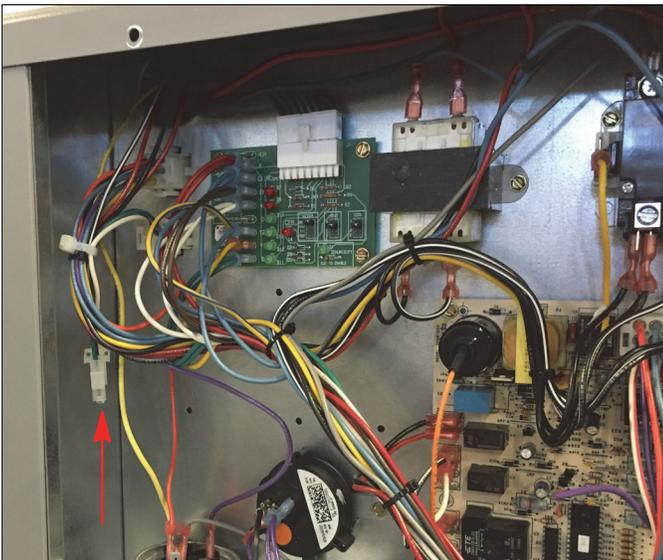

Figure 12. Control Panel 3-Wire Connector
11. Remove control access panel and locate unused 3-wire connector secured to wire loop on left side inside control compartment (see figure 12).